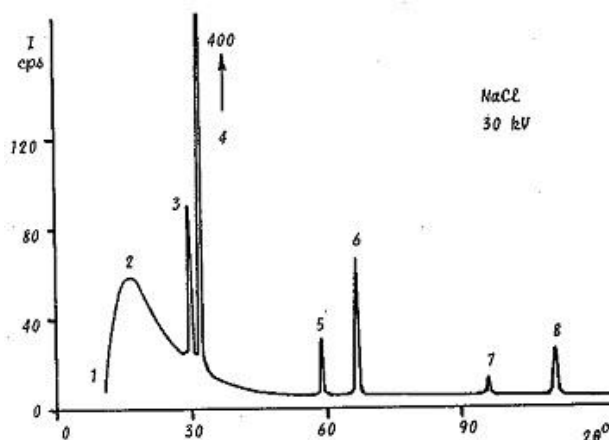

Figure 5
- Set the detector (Geiger Counter) to 550 V; arm position to the current location of the arm; count range to auto. Click the high voltage button on (small, round green button). Graph the count rate at  $1^\circ$  intervals. You should obtain a plot similar below (Figure 5).